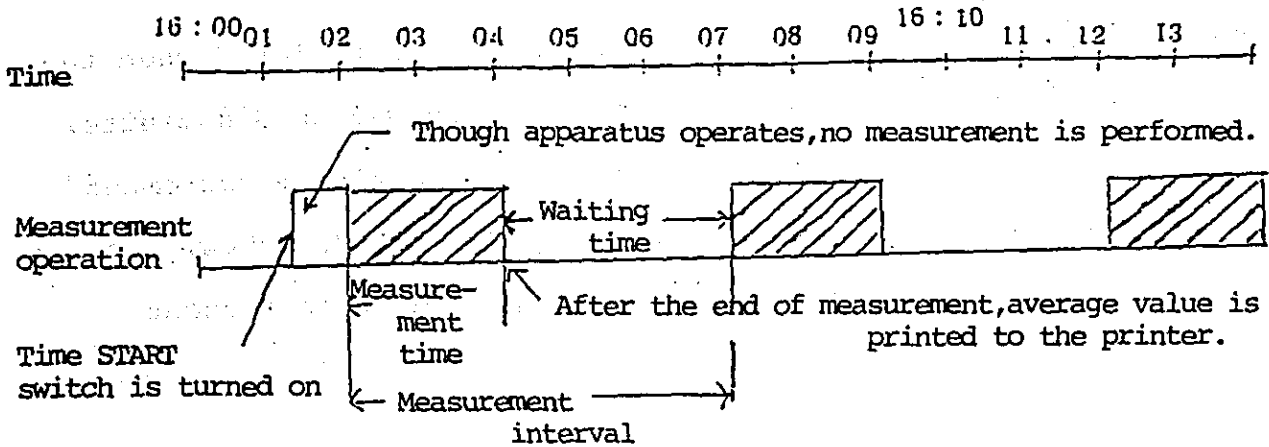

Fig. 7-5 Measurement time chart
Set (3) START/STOP switch to START. Then measurement starts. At this time, when (8) PRINT switch is in ON position, the printer operates, and machine No. calculation formula, measurement interval, measurement time and date are printed. As shown in Fig. 7-5, measurement is performed according to the timer.